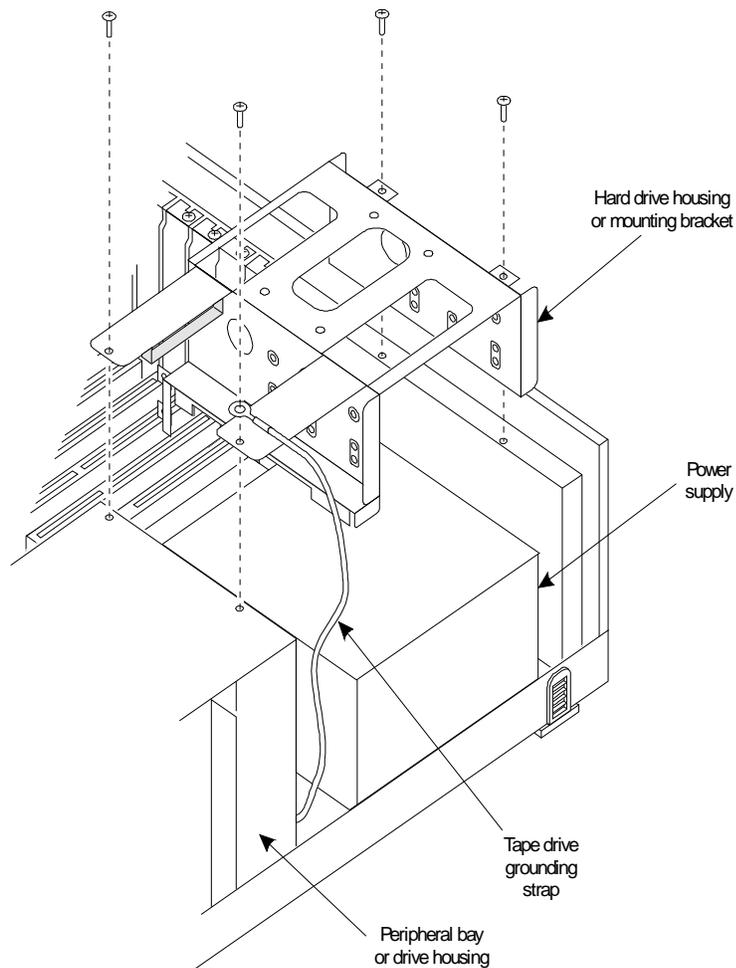

Figure 10-2. Removing the Second Hard Drive Housing or Mounting Bracket
6. Remove the second hard drive mounting bracket. See Figure 10-2.